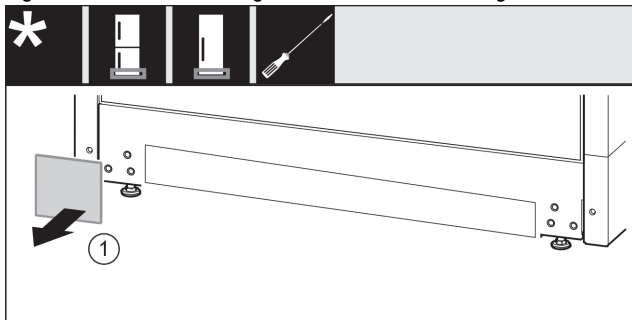

Fig. 12
- ▶ Remove the cover. *Fig. 12 (1)*